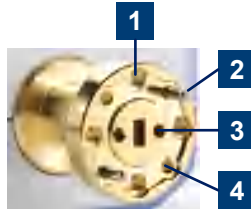

Figure 3-1: Waveguide flange
4. Align the alignment pins and the holes receiving the alignment pins of power sensor and DUT carefully, see also Figure 3-1. Avoid scratching the contact surfaces of the waveguide flanges.